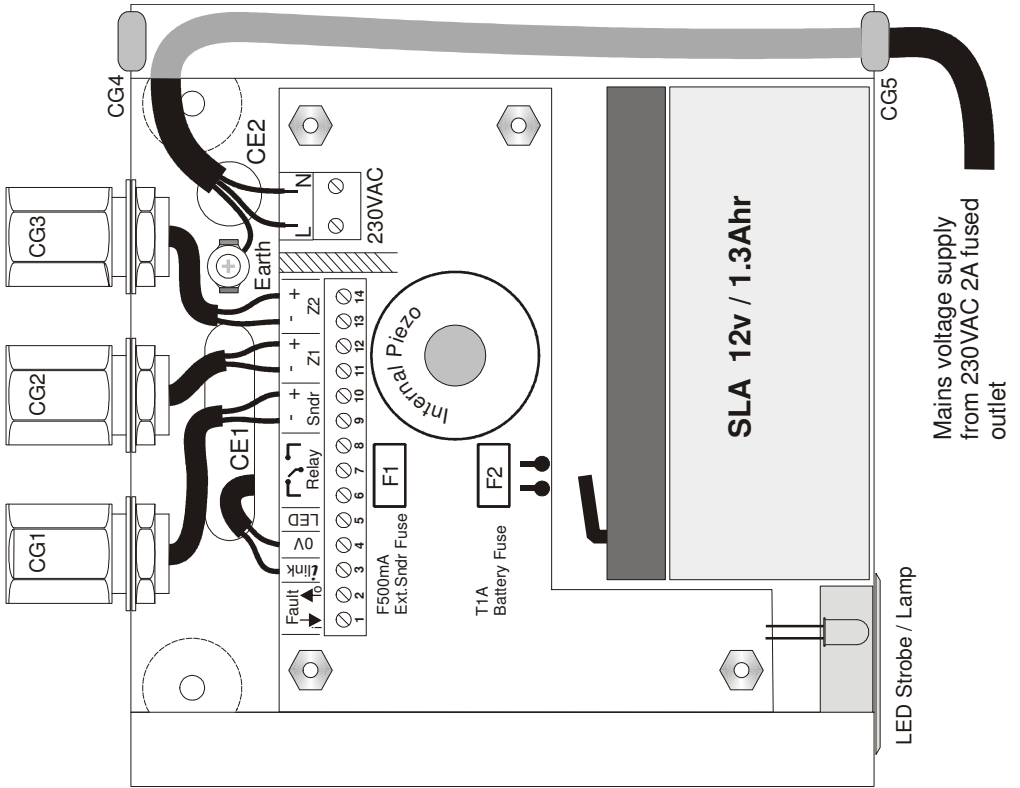

Figure 2: Internal Layout
- Position the battery as shown in Figure 2, with the -ve terminal to the rear of the box.